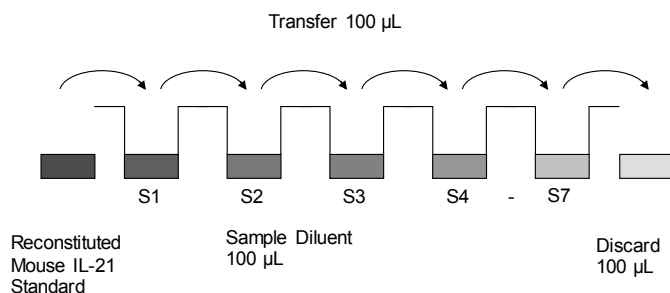

Fig. 7 Dilute standards - microwell plate
- Standard dilution on the microwell plate (Alternatively the standard dilution can be prepared in tubes – see “External standard dilution” on page 3): Add 100 µL of Sample Diluent in duplicate to all standard wells. Pipette 100 µL of prepared standard (see “Mouse IL-21 standard” on page 3, concentration = 2000 pg/mL), in duplicate, into well A1 and A2 (see Table 1). Mix the contents of wells A1 and A2 by repeated aspiration and ejection (concentration of standard 1 S1 = 1000 pg/mL), and transfer 100 µL to wells B1 and B2, respectively (see Figure 7). Take care not to scratch the inner surface of the microwells. Continue this procedure 5 times, creating two rows of mouse IL-21 standard dilutions, ranging from 1000.0 pg/mL to 16.1 pg/mL. Discard 100 µL of the contents from the last microwells (G1/G2) used.